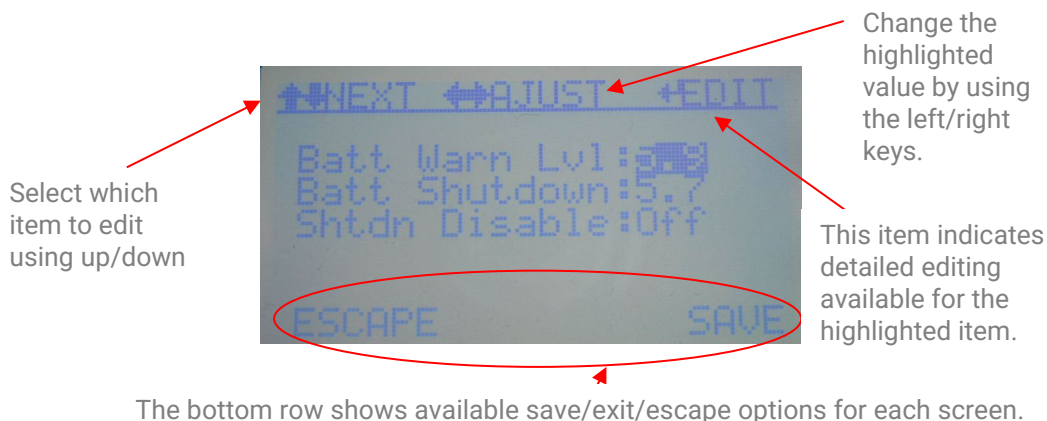

Figure 5.3
- D. Normal data entry – Most data entry can be accomplished by simple use of the LEFT/RIGHT keys to select/change values as shown in figure 5.3
Some data items require detailed editing as shown in figure 5.3. When the 'EDIT' item appears on the top row for a highlighted value, the operator can either use the LEFT/RIGHT to change the value or use the ENTER key to enter the value directly – see Detailed data entry below.